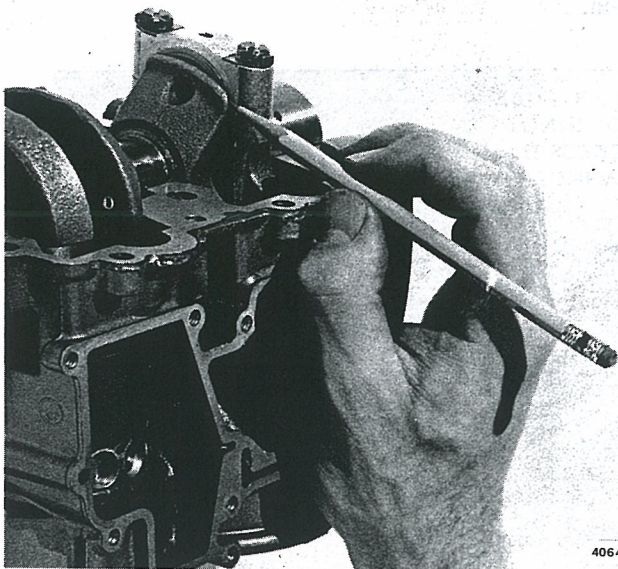

Figure 5-31. Checking Connecting Rod Cap Alignment
g. Check for binding of the connecting rod. The rod should be free to move easily over the full length of the crankpin. If rod binds, check alignment. See Figure 5-31 and 5-32.